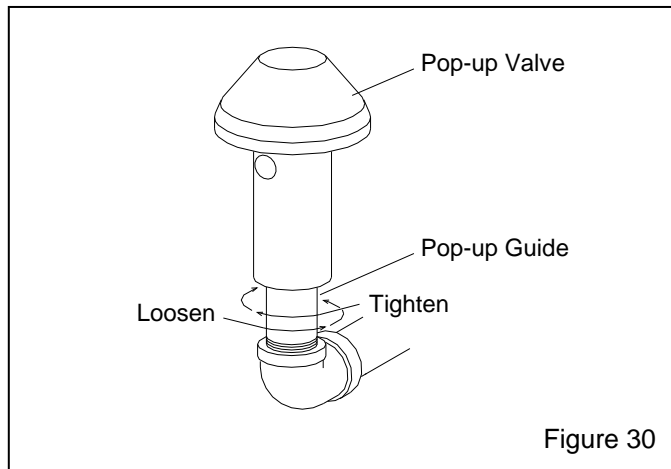

Figure 30
**6.9 Replacing the Pop-Up Valve, Figure 30**